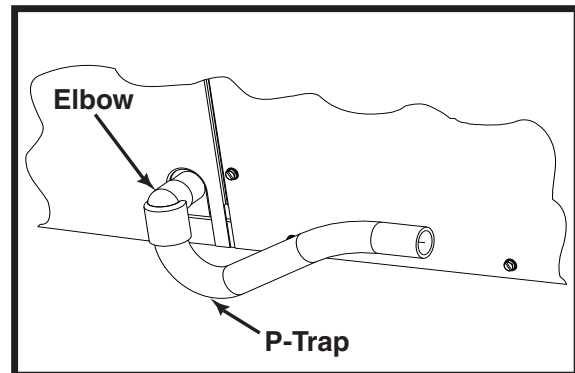

Figure 7. Drain Trap
A 3/4" condensate fitting extends out of the side of the unit as shown in Figure 7. The drain trap, shipped in the electrical compartment, must be installed to prevent water from collecting inside the unit.
2. Connect the condensate tubing onto the fitting, forming a trap near the drain connection. See Figure 7.